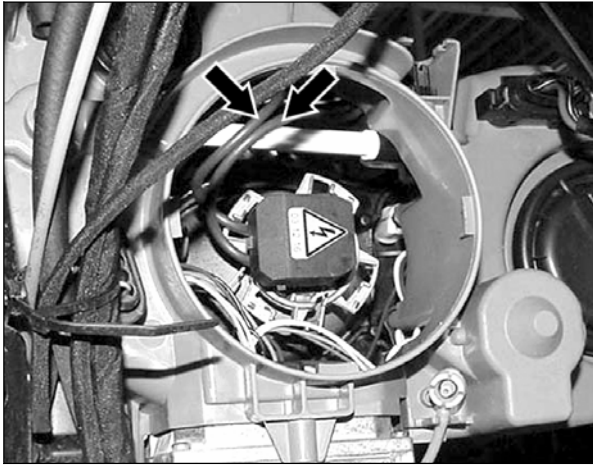

Figure 9
- 8.6 Cut off burner plug as close to the ignition module as possible (Figure 9) and scrap burner plug.